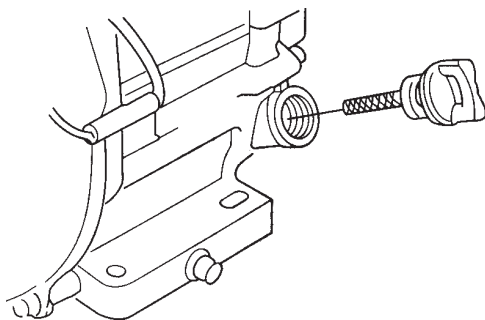

Figure 7. Engine Oil Dipstick (Removal)
2. Remove the filler dipstick from the engine oil filler hole (Figure 7) and wipe it clean.